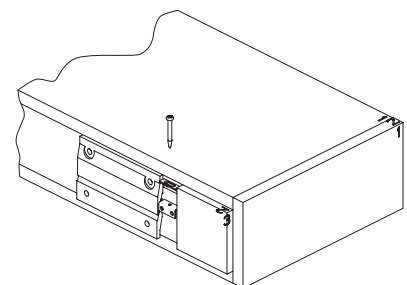

Fig. 4
1. From the back of the unit and at both ends, remove the wall-Mounted safety-clip. (Fig. 4)